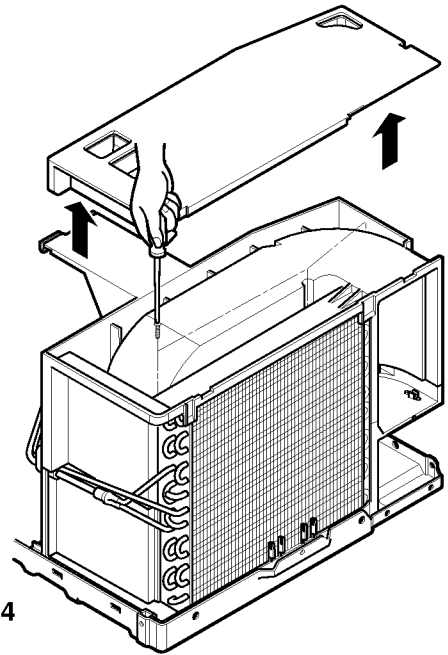

Figure 4
6. Re-install the components by referring to the above removal procedure. (See figure 4 and 5)